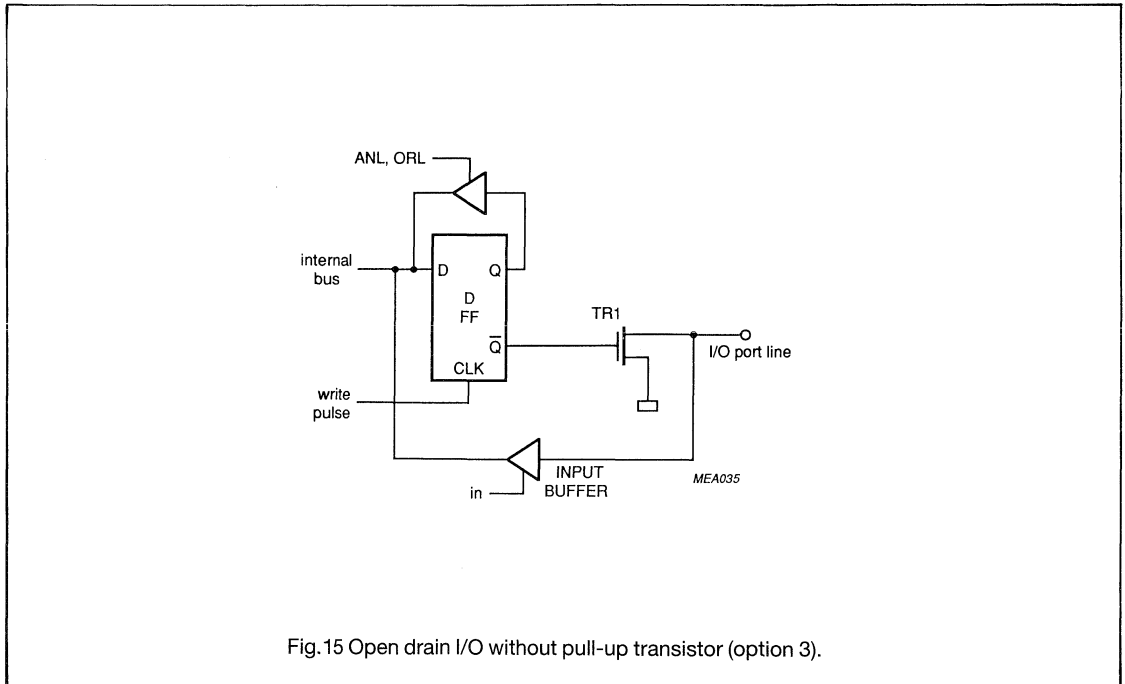

Fig.15 Open drain I/O without pull-up transistor (option 3).
- **Option 3** OPEN DRAIN I/O WITHOUT PULL-UP; open drain output without pull-up transistor (see Fig. 15). Application as an output requires the connection of an external pull-up resistor.